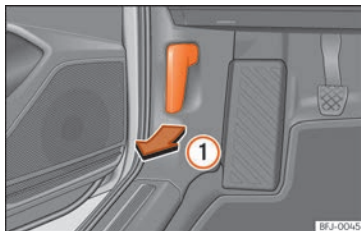

Fig. 239 Release lever in the driver's footwell area.
- Open the door and pull the lever under the dashboard »» Fig. 239 ①.